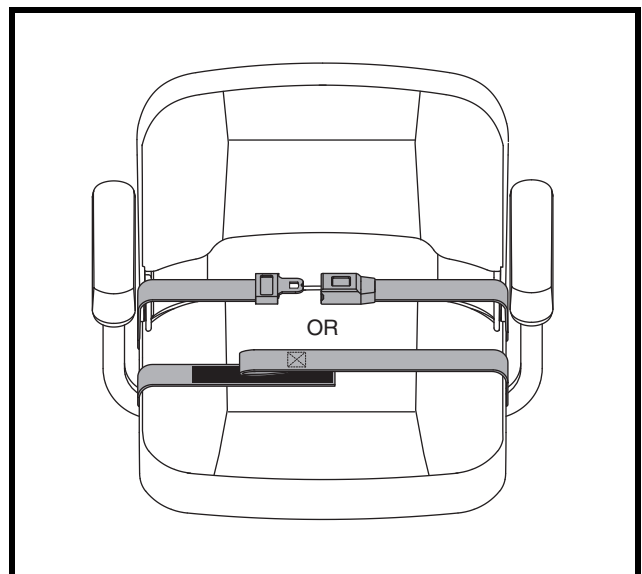

Figure 20. Positioning Belt - Metal Tab Style or Reusable Hook and Loop Fastener Style
1. Insert the metal tab on the right side of the belt into the plastic housing on the opposite strap until you hear a “click.” See **figure 20**.
1. Align the two sides of the belt placing the looped-end side directly above the coarser side (“hook”) of the opposite belt. Press firmly together to fasten. See **figure 20**.